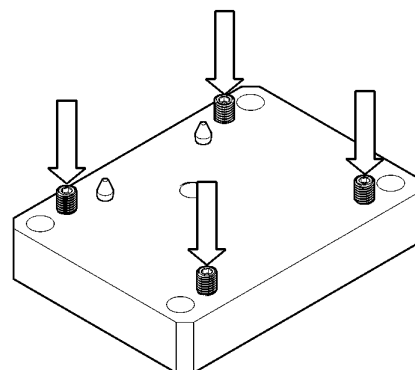

FIGURE 3-4. LEVELING SET SCREWS
- b) Adjust perpendicularity by leveling the set screws (see Figure 3-4).